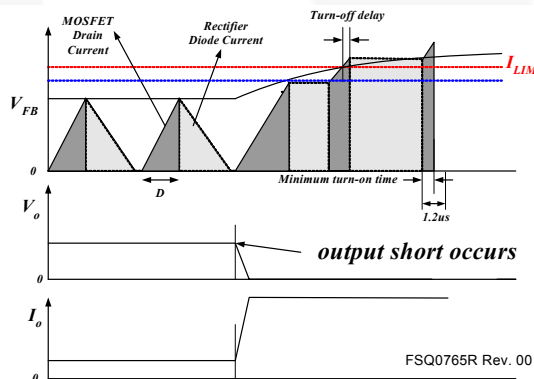

Figure 31. Output Short Waveforms
**4.3 Output-Short Protection (OSP):** If the output is shorted, steep current with extremely high di/dt can flow through the SenseFET during the LEB time. Such a steep current brings high voltage stress on the drain of SenseFET when turned off. To protect the device from such an abnormal condition, OSP is included in the FSQ-series. It is comprised of detecting  $V_{FB}$  and SenseFET turn-on time. When the  $V_{FB}$  is higher than 2V and the SenseFET turn-on time is lower than 1.2 $\mu$ s, the FPS recognizes this condition as an abnormal error and shuts down PWM switching until  $V_{CC}$  reaches  $V_{start}$  again. An abnormal condition output short is shown in Figure 31.